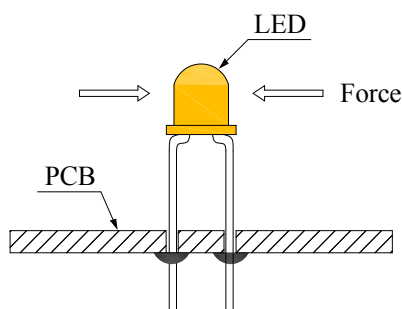

Fig. 9
- 4.6. After soldering or other high-temperature assembly, allow the LED to cool down to 50°C before applying outside force (Fig. 9). In general, avoid placing excess force on the LED to avoid damage. For any questions please consult with LuckyLight representative for proper handling procedures.